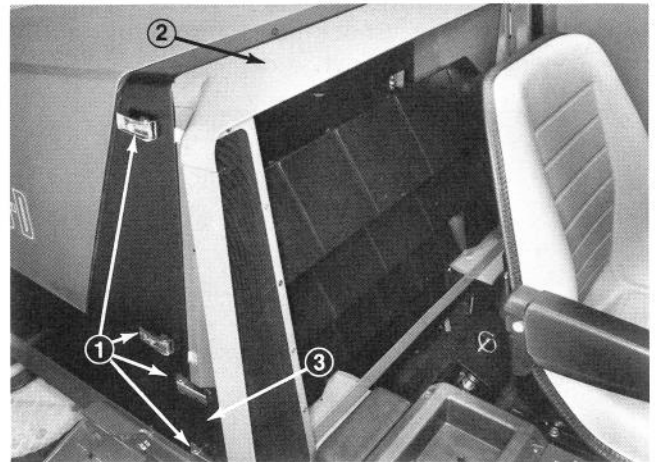

Figure 37
- b. Unlatch latch handles on both sides and remove radiator cowl and grille support (Fig. 37).